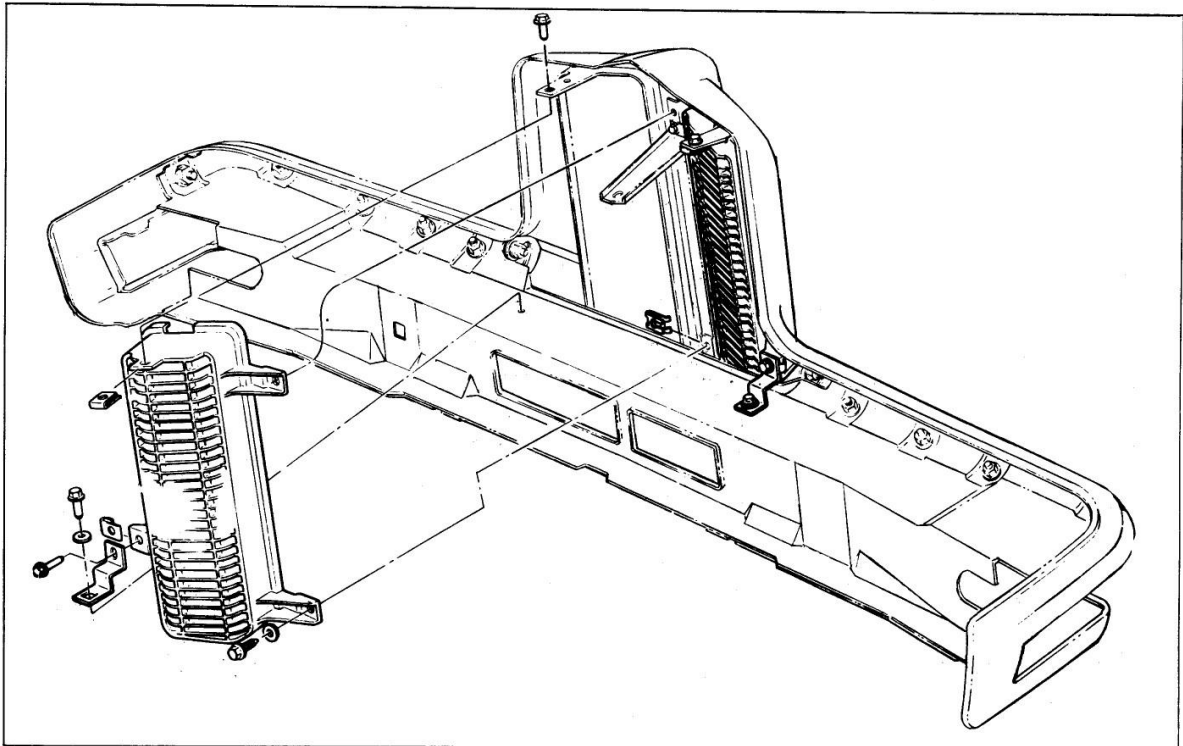

Fig. 14-5 Pontiac Grille
3. Remove grille shells (Fig. 14-5).